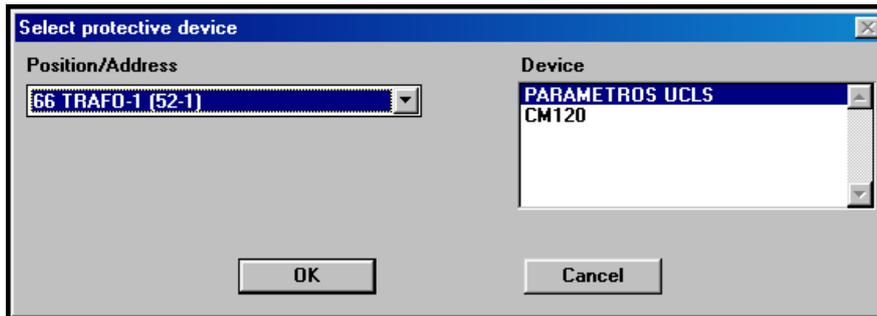

Fig 1.2
- If the value of this variable is “Autodetection” the SIPCON Console tries to detect the protection model it is communicating with according to the description given in the “PROTECTION CONFIGURER” chapter of the user instruction manual. If not, we will return to the Fig. 1.1 view, or otherwise a view similar to Fig. 1.2 is displayed, but with a single position and only one unit, corresponding to the position and unit detected.
- A protection access symbol (icon) displayed on the Fig 1.2 view
By pressing ‘select’ on the Fig. 1.2 view or double-clicking upon the unit required, we access the unit (protection or automatic functions); the following describes the protections only.